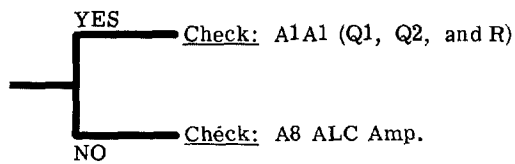
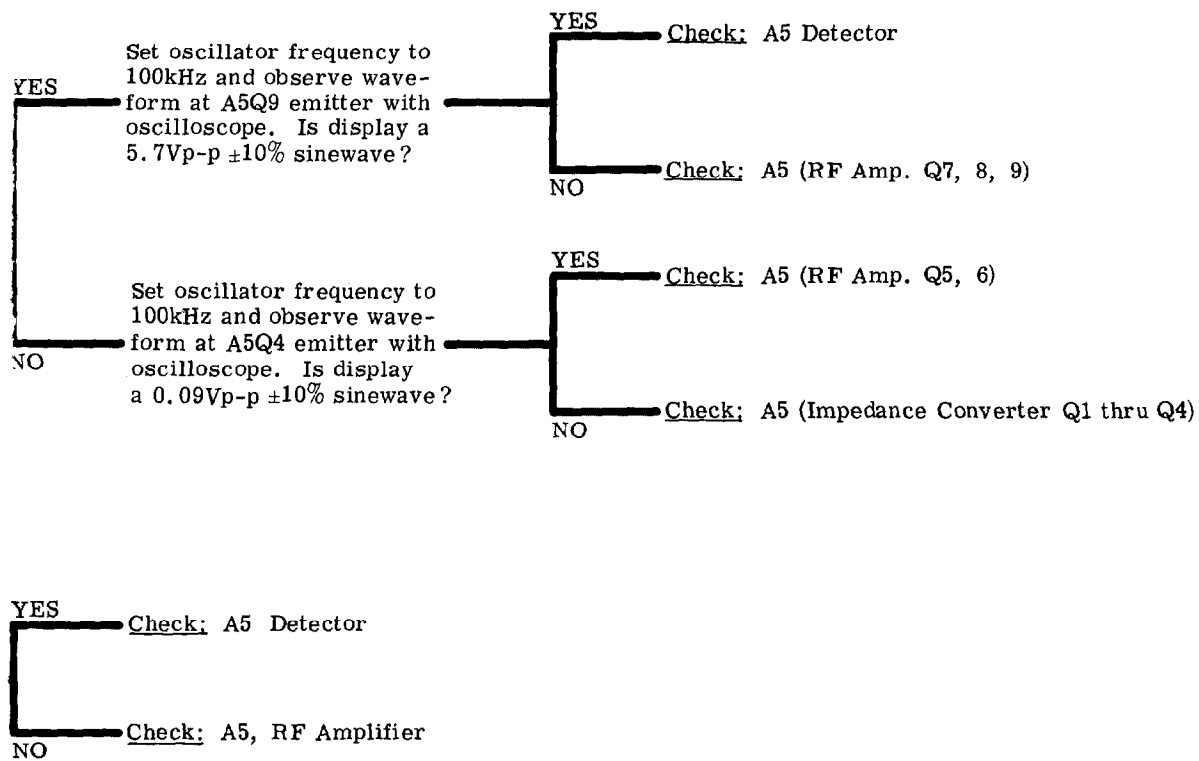

Figure 5-12. Troubleshooting, Oscillator Section
Figure 5-13. Troubleshooting, Voltmeter Section
5-38. This paragraph and those below provide information helpful to isolating a faulty circuit in a defective unit and the appropriate remedy for the trouble. Component level troubleshooting procedures are provided in Figures 5-13 and 5-14 in the form of flow diagrams [however, for simple circuits composed of only a few (active) components, these figures treat the breakdown only to circuit block level and component level troubleshooting procedure is omitted]. Before proceeding with troubleshooting, verify whether any external factor relating to the instrument operating environment is contributing to the trouble symptoms. The following paragraphs outline some considerations for such external troubles:
- d. RF Voltmeter reading should be within $30\text{mV} \pm 0.9\text{mVrms}$ at any frequency setting. If this check fails, troubleshoot oscillator section and follow Figure 5-12 Troubleshooting Tree. If OK, troubleshoot voltmeter section and follow Figure 5-13 Troubleshooting Tree.